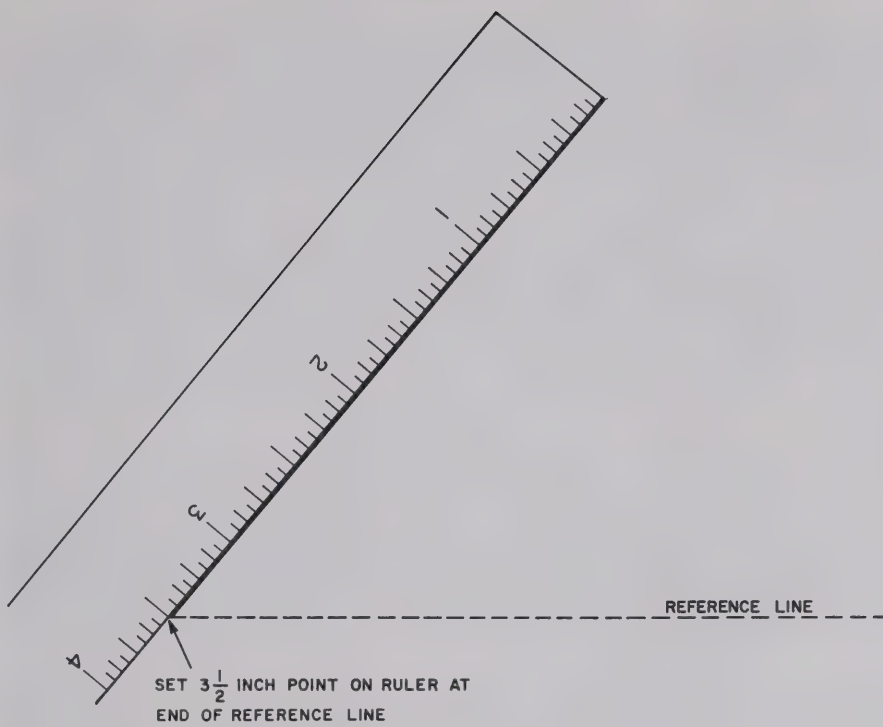
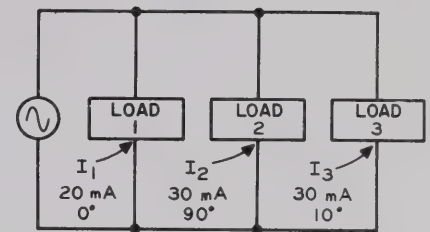
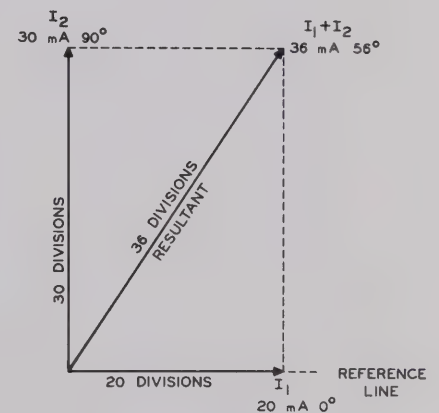
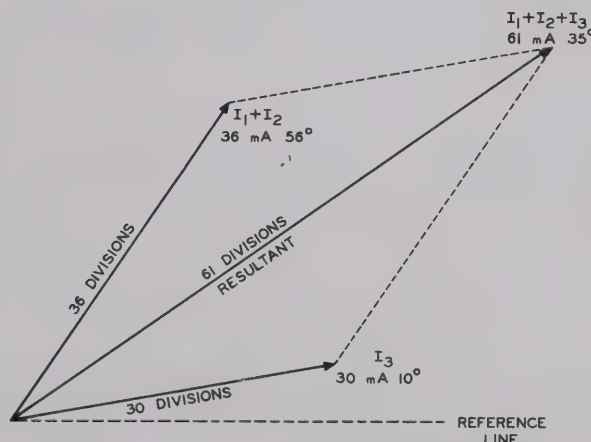

Figure 9
Figure 23
Figure 24
Figure 25
Let us draw a vector with an angle of 50 degrees and a length of $3 \frac{1}{2}$ inches, as shown in Figure 9. The $3 \frac{1}{2}$ inch division on the ruler is positioned at the end of the reference line while the straight edge of the ruler is positioned along the 50-degree mark that you have just made with the protractor. A line is then drawn along the straight edge from the upper end of the ruler to the end of the reference line. This is your vector. If each small scale division, $\frac{1}{16}$ inch, represents 5 volts, then the vector represents 280 volts. Now you may place an arrowhead at the upper end of the vector.
You can use vectors to determine the resultant of more than two out-of-step voltages or currents. To illustrate the method used, let's determine the total current in the circuit of Figure 23. First, find the vector sum or resultant of any two of the currents. Then, use this resultant and the third current to find their resultant, which is the total circuit current.
Let's first find the vector sum of I_1 and I_2 in Figure 23. To set up a convenient scale let each small division represent 1 mA. The I_1 vector will be 20 small scale divisions in length and the I_2 vector will be 30 small scale divisions in length. Draw the I_1 vector at 0 degrees along the horizontal reference and draw the I_2 vector at 90 degrees, as shown in Figure 24. To obtain the resultant vector (vector sum of I_1 and I_2), draw dashed lines parallel to I_1 and I_2 , and draw the resultant vector to the intersection of the dashed lines, as shown in the figure. The length of the resultant vector is approximately 36 small scale divisions and its angle is about 56 degrees. Therefore, the vector sum of I_1 and I_2 is $36 \text{ divisions} \times 1 \text{ mA} = 36 \text{ mA}$, at 56 degrees.
Now, combine the resultant vector of I_1 and I_2 shown in Figure 24 with the I_3 vector, as shown in Figure 25. Use the regular procedure to find the resultant (vector sum). The resultant vector in Figure 25 is approximately 61 small divisions in length and it is at an angle of about 35 degrees. Since each small division represents 1 mA, the total circuit current is 61 divisions $\times$ 1 mA = 61 mA, at an angle of 35 degrees. You will have to use the ruler as shown in Figure 9 to measure the resultant vector. If the circuit contained another branch, you would then combine its vector with the resultant vector of Figure 25. In this example, we have considered the current vectors in a parallel circuit. The same method can be used to combine out-of-phase voltages in a series circuit.
7. A - THE RESULTANT VECTOR IN THE VECTOR DIAGRAM OF FIGURE 24 -- REPRESENTS THE VECTOR SUM OF I₁ AND I₂.